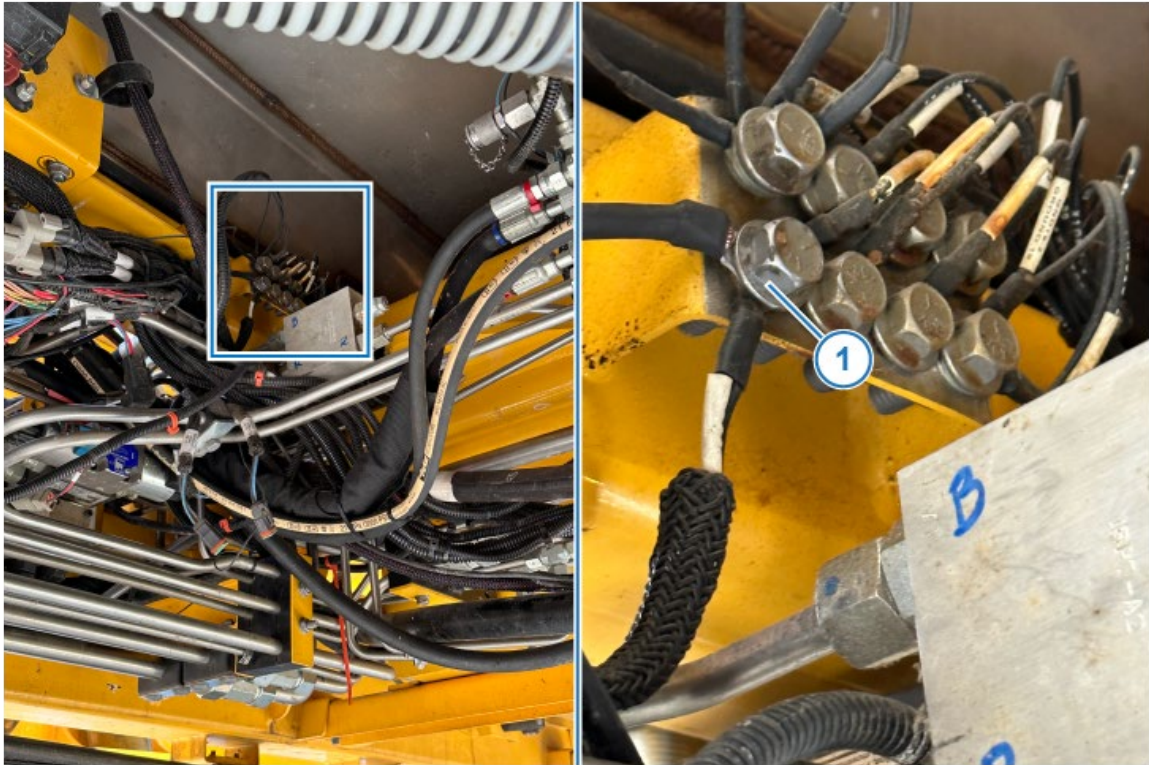

Figure 5 — Ground Harness
9. *Figure 5:* Locate the ground connection point (1) and secure the harness cable with supplied hardware.